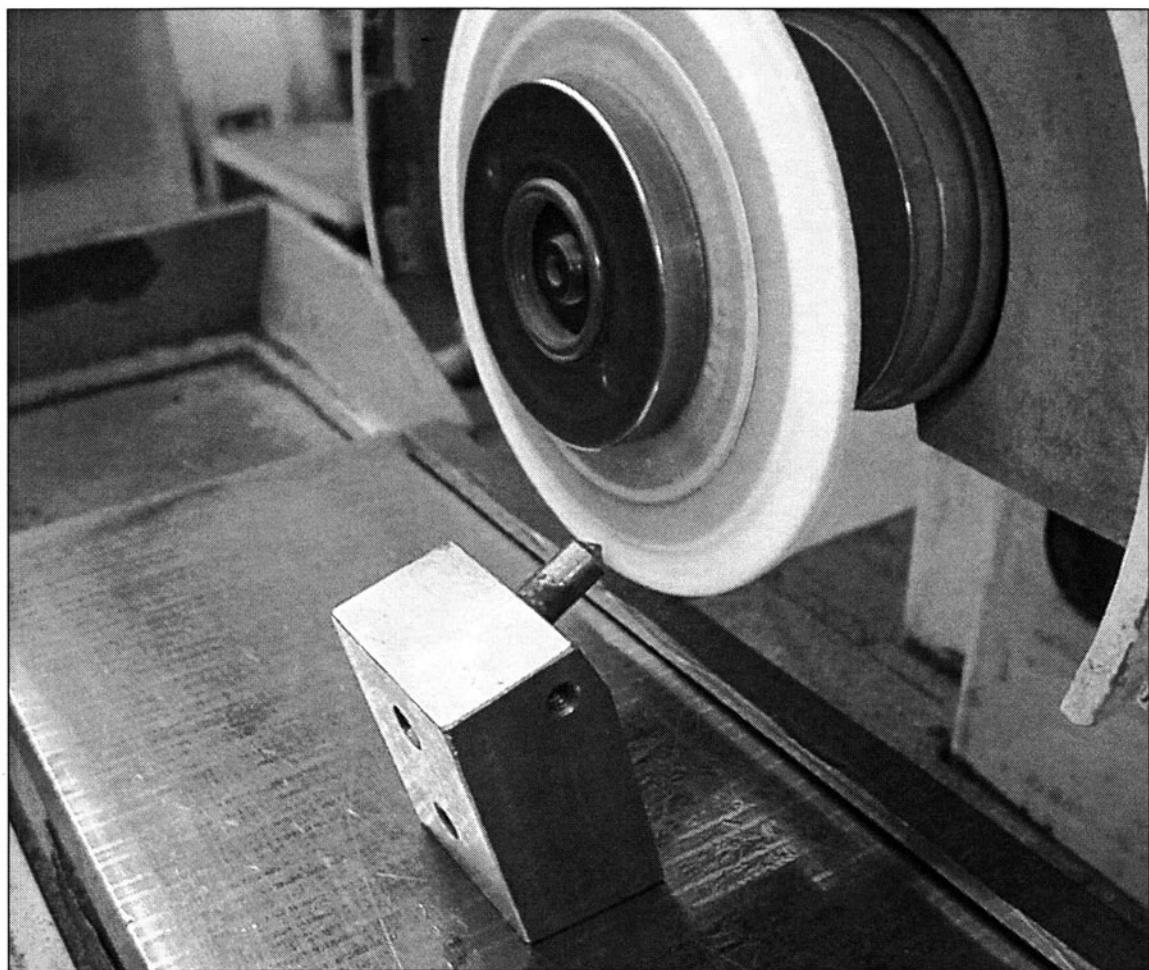

FIGURE 14-14 The side of a wheel is being dressed with a diamond nib.
21. Make a diamond nib holder that can be used to dress the side of a wheel. (See Fig. 14-14)